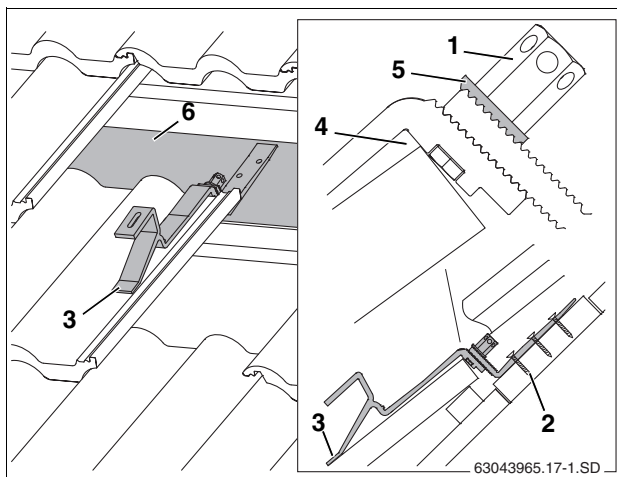

Fig. 13 Roof hook installed (some tiles have been removed for a better view)
With some roof coverings it may be necessary to suspend the roof hook using a board or shims (Fig. 13, [6]) to get the upper part of the roof hook to rest on top of the tile.
- ▶ The roof hooks must be positioned in tile valleys and directly bolted to the building substructure with sufficient capacity to carry the load of the solar system including required snow and wind loads (Fig. 13, [3]).
Allow for expansion and contraction by keeping some clearance along the upper edge of the tile (Fig. 13, [4]).
- ▶ Push the L-shaped part of the roof hook down until it lies flat on the sheathing or on the board/shim if needed (Fig. 13, [6]).
The toothed washer (Fig. 13, [5]) must grip the teeth on the lower part of the roof hook.
- ▶ Tighten the long hex-nut (Fig. 13, [1]). To do this, insert the size 5 Allen wrench into the hole in the hex-nut and turn.
- ▶ Using suitable screws (Fig. 13, [2]), secure the L-shaped part of the roof hook to the building substructure. The sheathing alone will not offer sufficient support.